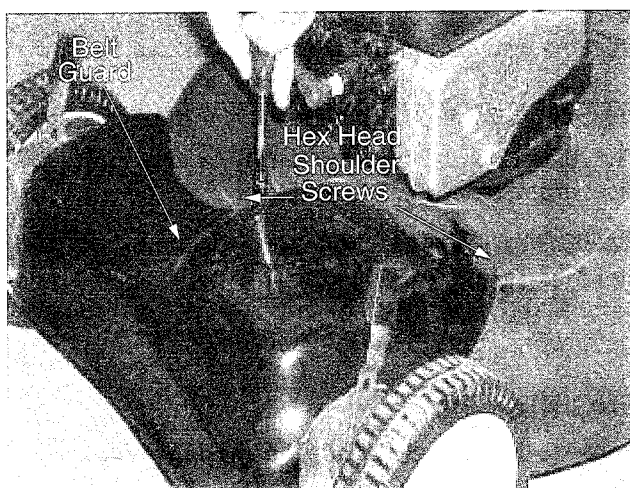

Figure 21
1. Remove the two shoulder screws from on top of the deck which secures the belt guard to the mower deck. See Figure 21.